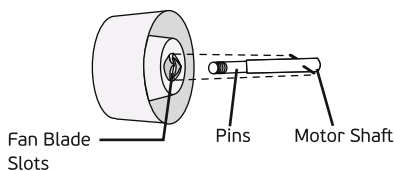

Fig. 9
- Align the Fan Blade Slots to the pins on the Motor Shaft. (Fig 9) Press the Fan Blade until the pins fully embed in the Fan Blade Slots.